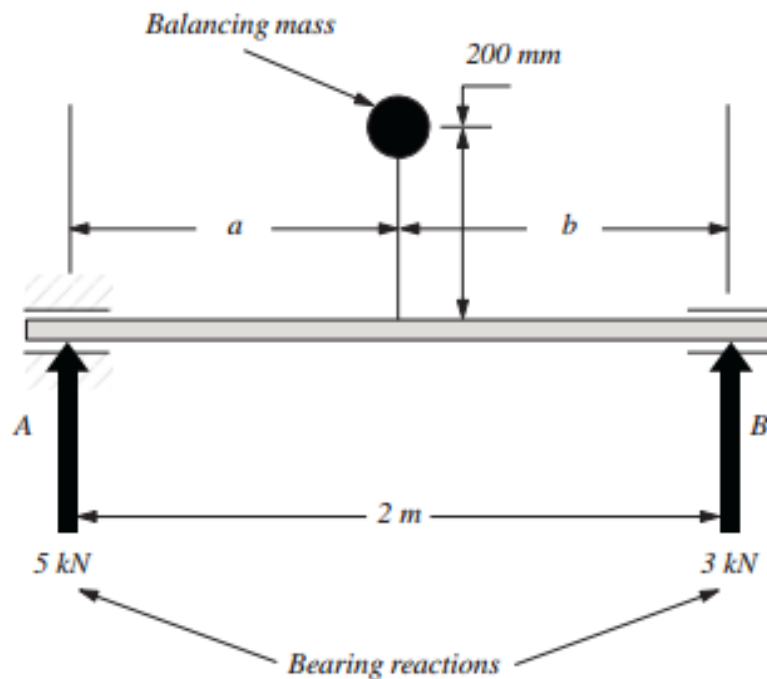

FIG. 2
2. (a) A shaft 2 m long rotates at $1500 \text{ revs min}^{-1}$ between bearings as shown in FIGURE 2. The bearings experience forces of 5 kN and 3 kN acting in the same plane as shown. A single mass is to be used to balance the shaft, so that the reactions are zero. The mass is to be placed at a radius of 200 mm from the shaft centre, 180° from the direction of the bearing reactions. Determine the size and position (a and b) of the mass to be used.